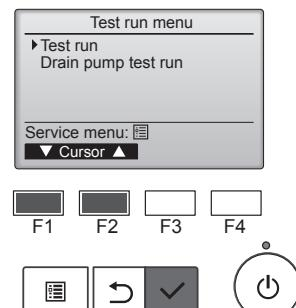

Fig. 6-5
- ④ Select "Test run" with the [F1] or [F2] button, and press the button. (Fig. 6-5)